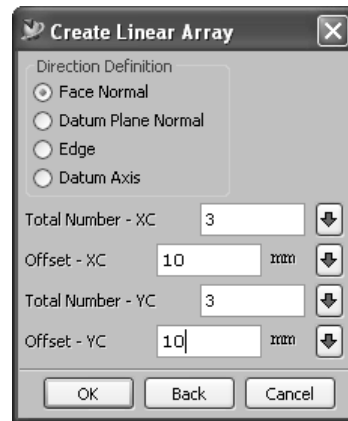

Figure 8-25 The **Create Linear Array** dialog box
3. In case of a linear pattern, select the **Linear** radio button and choose the **OK** button. The **Create Linear Array** dialog box will be displayed, as shown in Figure 8-25, and you will be prompted to select the object to define the X direction. After you define the X direction, you will be prompted to select the object to define the Y direction. You can select a datum plane, edge, datum axis or a face normal to the object for defining the X and Y directions.